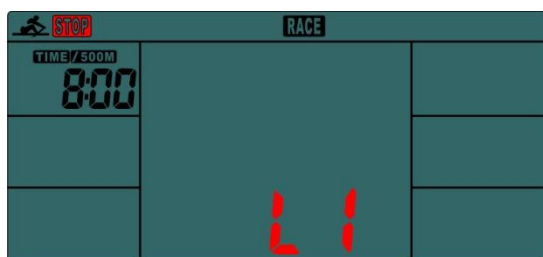
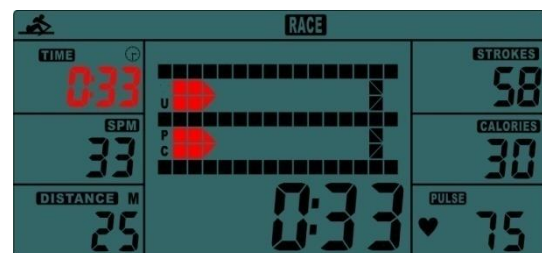
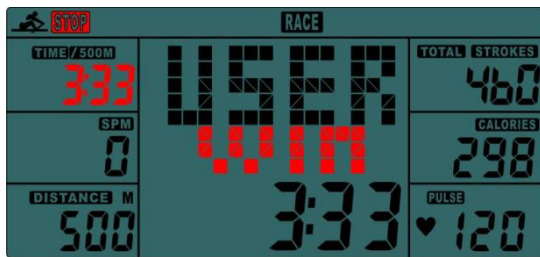

Fig.5
Fig.6
Fig.7
II. RACE (Fig.5):
A. Press "START" button to start and "STOP" will disappear. "USER" and "PC" will display in the matrix (Fig.6). The computer will stop when either user or computer has reached the race distance that was set. Then the matrix displays "PC WIN" or "USER WIN" (Fig.7).
**ONLY ARM ROWING:** This workout should tone your arm, shoulder, back and abdominal muscles. Sit on the machine as shown in Fig. 4. Straighten your legs, lean forward and grasp the handles. Control your moving and gradually lean back to just past the up-right position (Fig. 5) and continue to pull the handles towards your chest (Fig. 6). Return to the starting position and repeat.
**ONLY LEG ROWING:** This workout helps toning your leg and back muscles. Keep your back straight and arms out-stretched, bend your legs until you will grasp the rowing handles in the starting position (Fig. 7). Use your legs to push your body back (Fig. 8) while keeping your arms and back straight as shown in Fig. 9.